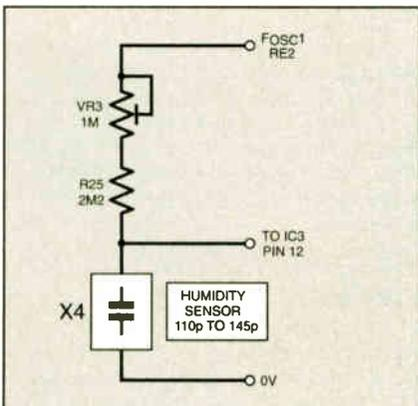

Fig.5. Humidity sensing circuit.
A similar timing technique is used for sensing the relative humidity (RH) of air. The circuit diagram is given in Fig.5.